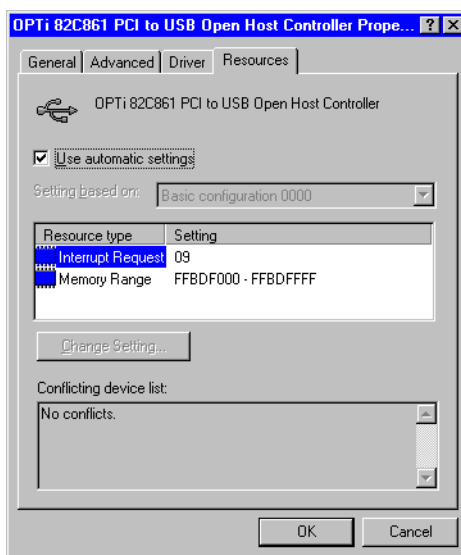

Figure C-2: USB Root Hub Properties dialog box
- Click the Resources tab (see Figure C-2). The "Conflicting device list" should show "No conflicts."